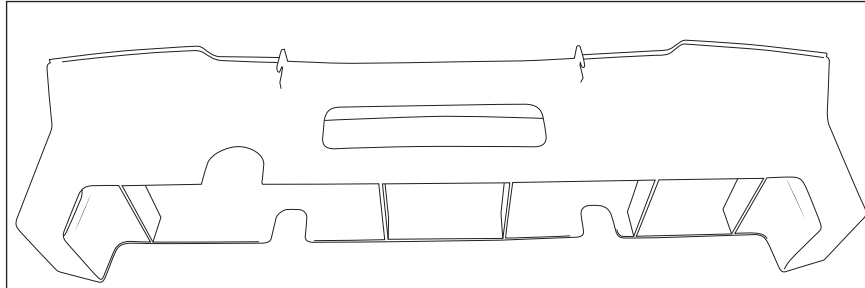

Figure 22
16. Trimming the air diverter (fig. 22).